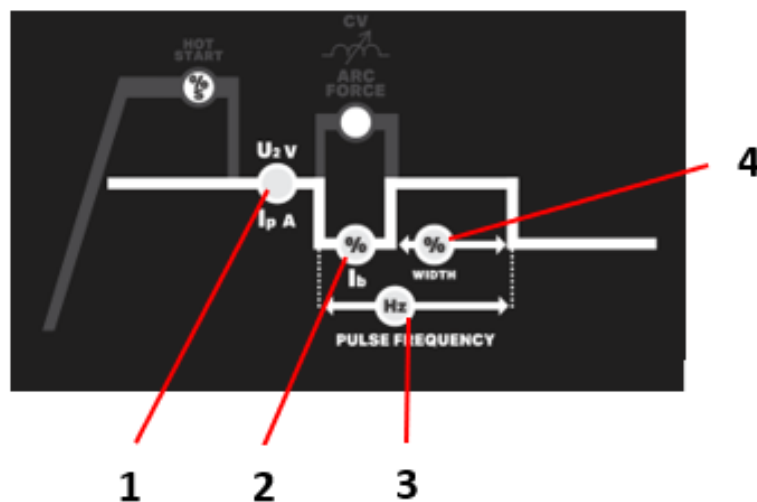

Fig. 3 – LIFTIG parameters
- Adjust welding current (Fig.3 – 1).
For DC 254-604 (See items in Fig. 3)